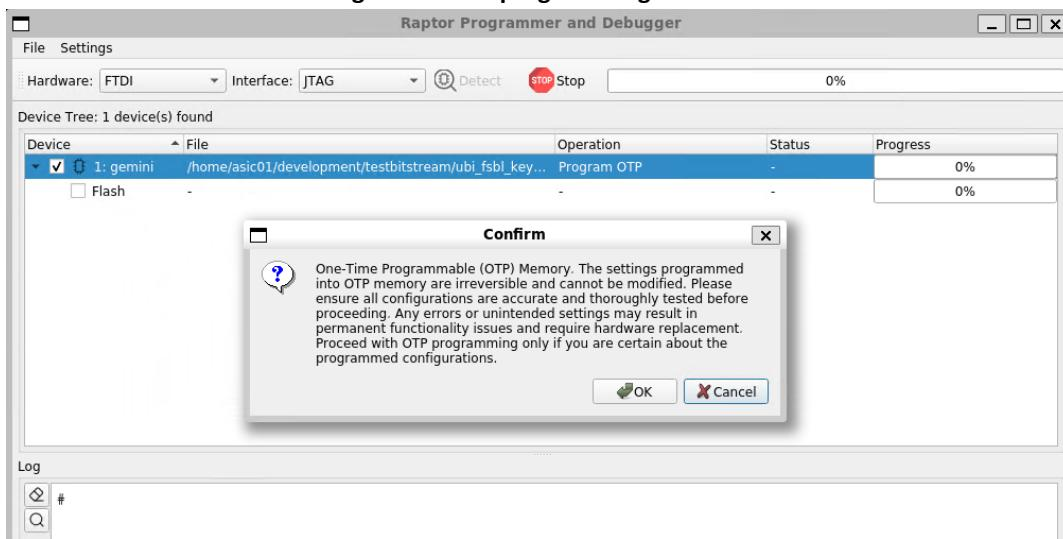

Figure 70. OTP Warning Message
- iii. Before OTP programming begin, a warning message will pop to tell user that it is one time programming and it is an irreversible process. Click Ok to continue otherwise cancel. This is shown in figure 70.